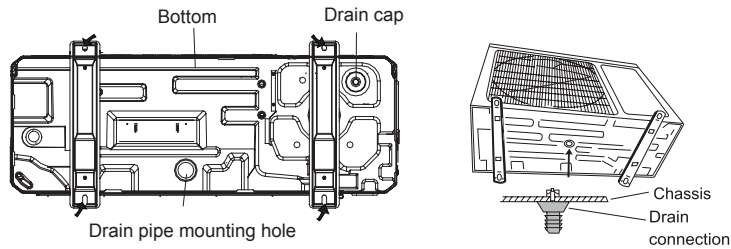

Fig.12
4.2.2 Condensate Drainage of the Outdoor Unit(Only for the heat pump unit) (Fig.12)